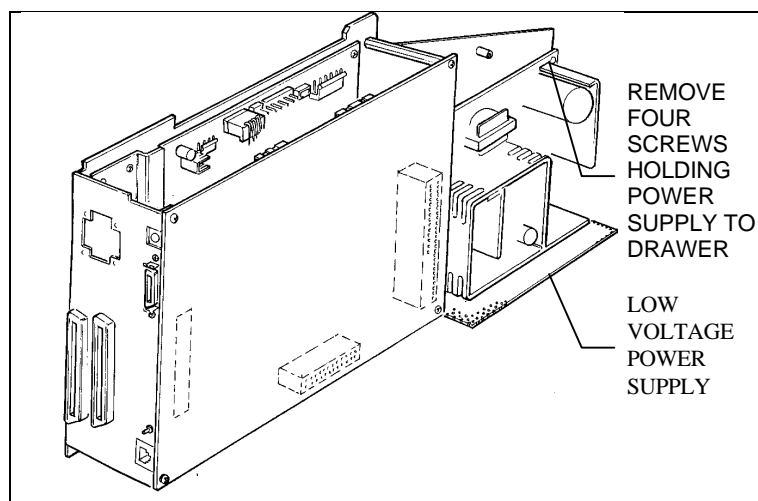

Figure 6-21. Removing the low voltage power supply
4. Remove four screws which secure the low voltage supply to the drawer. (Figure 6-21)